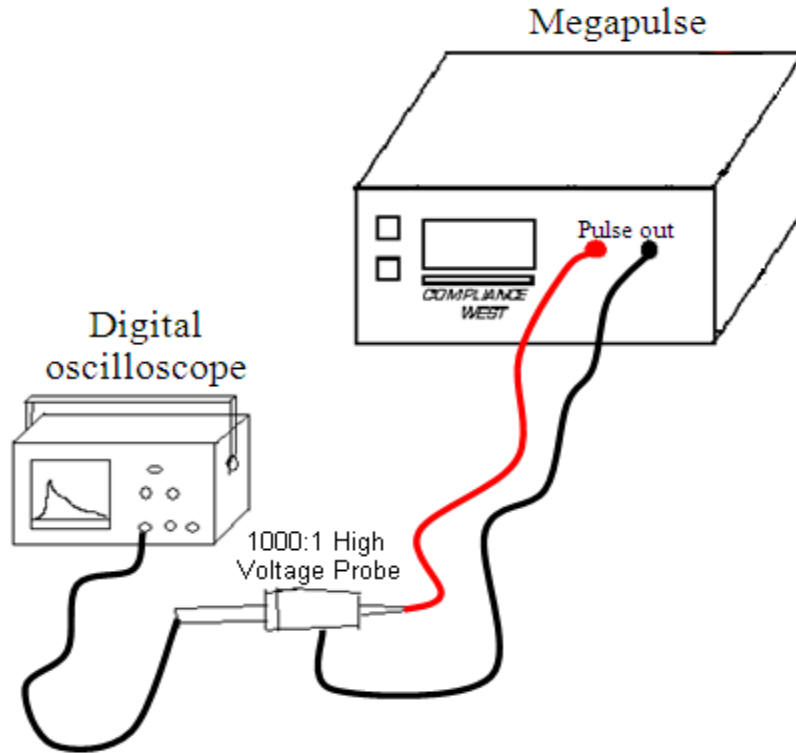

Figure 8. Waveform Measurement Setup.
3. Connect the ends of the test leads to an appropriate measuring instrument (typically an oscilloscope with a high-voltage probe). Note that the **RETURN** lead is referenced to the chassis ground of the tester. See **Figure 8** as an example.